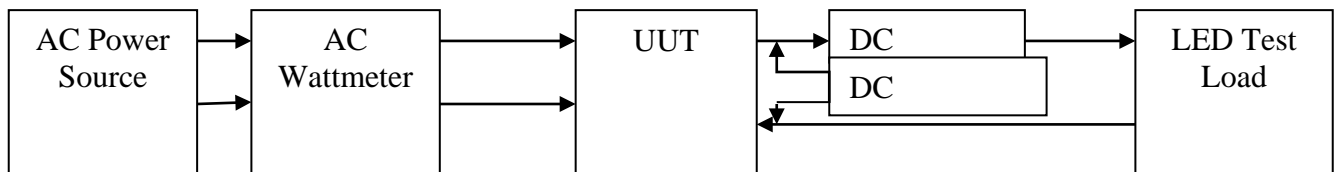

Figure 1. Test Set Up
1. Connect the Unit Under Test (UUT) per the test set up in Figure 1.
Connect the UUT per figure 1.